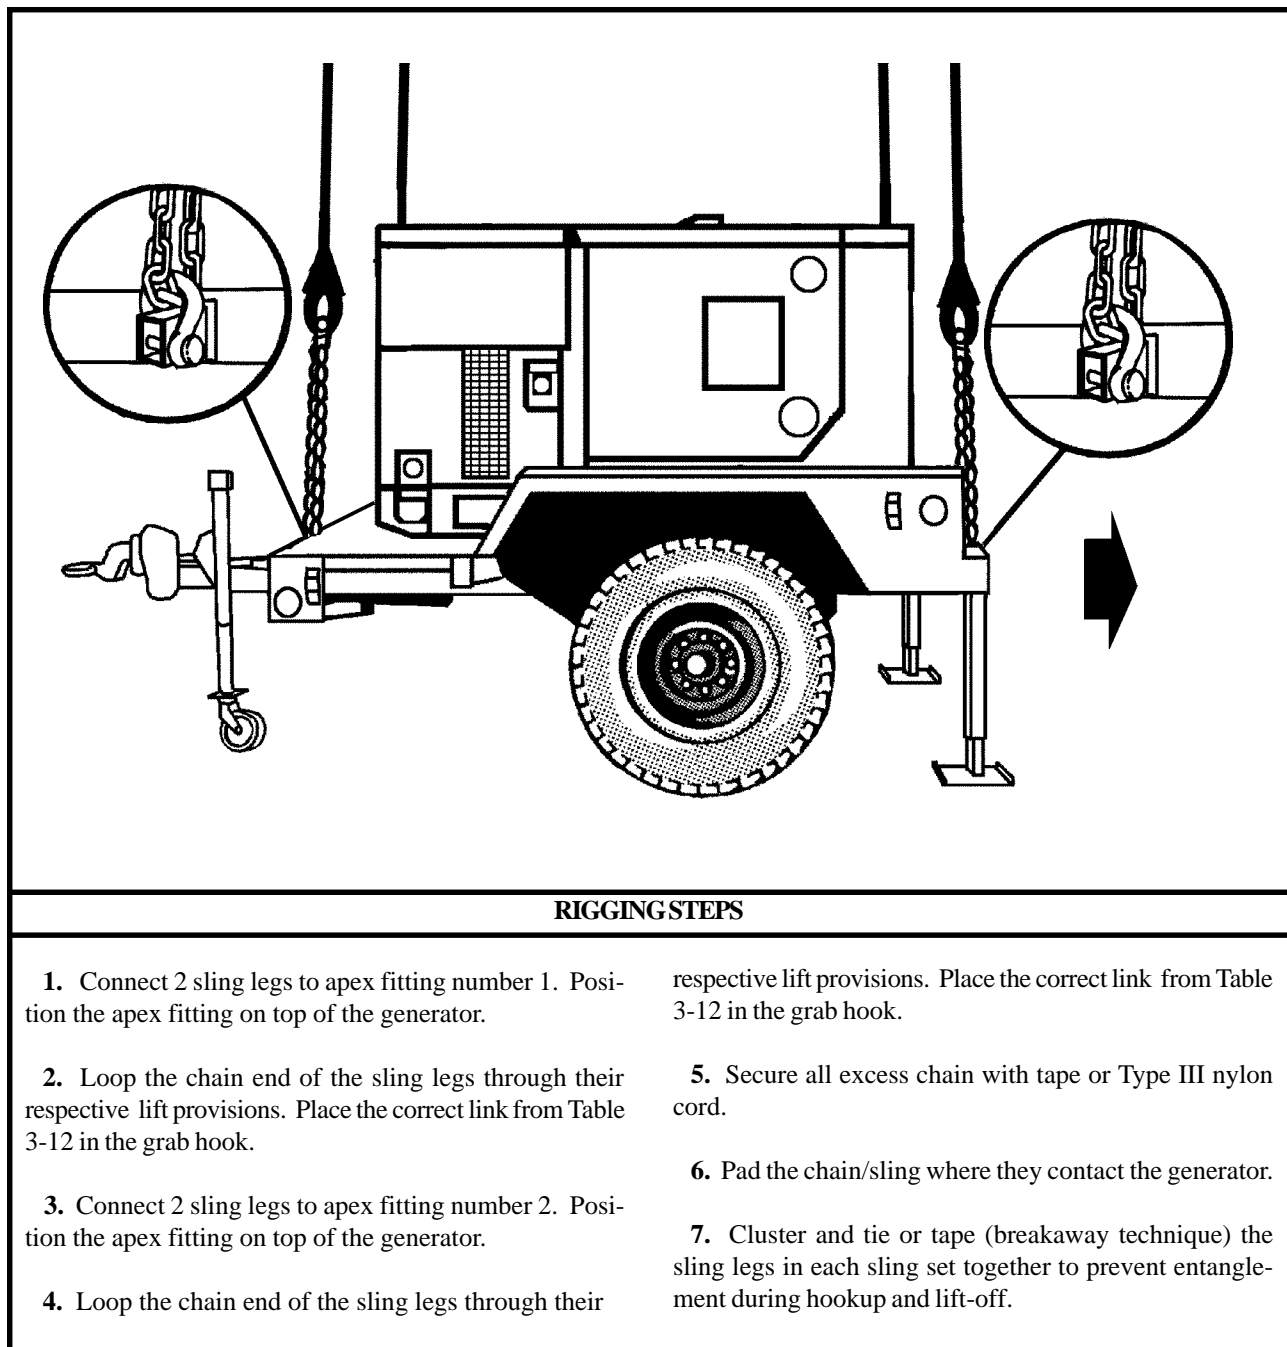

Figure 3-12. High Mobility Trailer-Light (HMT), M1101 with AN/TSQ-198
(2) Rigging. Rig the load according to the steps in Figure 3-12.
(3) Hookup. The hookup teams stand in the bed of the trailer and on the drawbar. The static wand person discharges the static electricity with the static wand. The forward hookup person places apex fitting 1 onto the forward cargo hook. The aft hookup person places apex fitting 2 onto the aft cargo hook. The hookup team then carefully dismounts the vehicle and remains close to the load as the helicopter removes slack from the sling legs. When successful hookup is assured, the hookup team quickly exits the area underneath the helicopter to the designated rendezvous point.
(4) Derigging. Derigging is the reverse of the preparation and rigging procedures in steps d (1) and d (2).